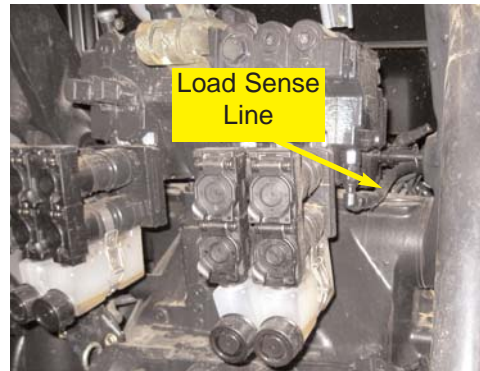

Figure 4b. Load sense line.
- b. Locate the tractor load sense line on the lower right side of the valve stack on the back of the tractor. (Figure 4b.)